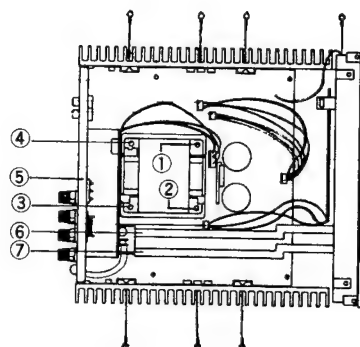

Fig. 4
2. Remove screws ① to ④ in Fig. 4, and then remove the pcb-2 ⑤ with the power transformer
3. Remove switch rods ⑥ to ⑦ and speaker selector switch in Fig. 4